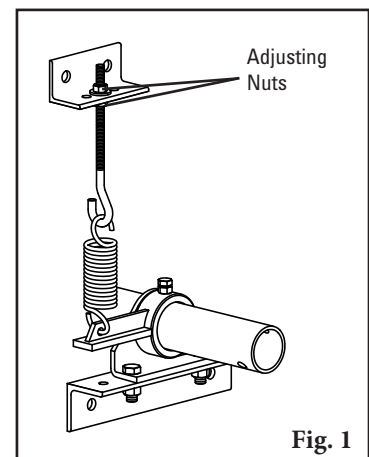

Fig. 1
1. **Remove the tension.** Loosen the adjusting nuts on the mounting bracket/J-bolt assembly to remove tension from the arm (Fig. 1). This releases the tension of the blade on the belt.